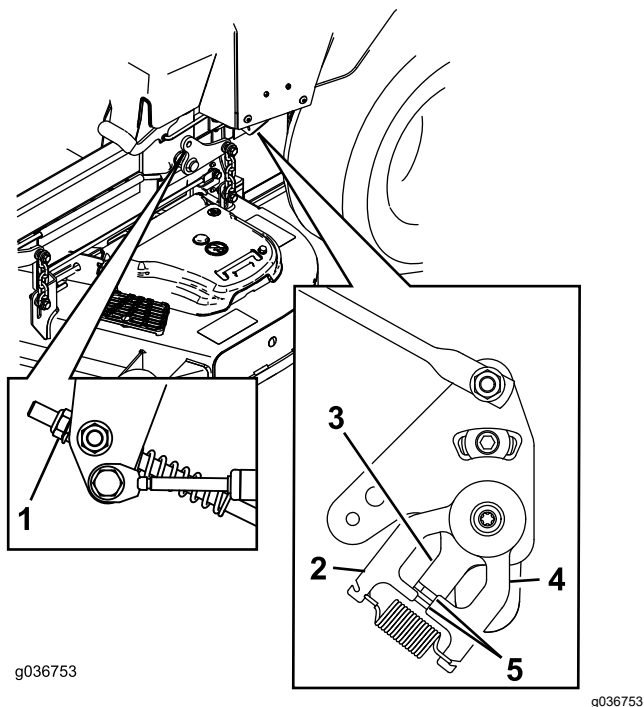

Figure 60
11. Adjust the pump-control-rod lengths by rotating the nut in the appropriate direction until the wheels slightly creep in reverse (Figure 60).